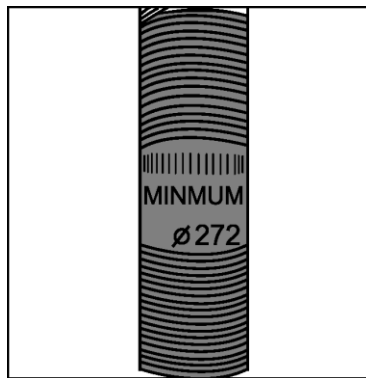

Figure 1: Seat post
- **Seat post:** see figure1. A rippled line is engraved in the seat post. This is the minimum length that the seat post should remain in the frame.